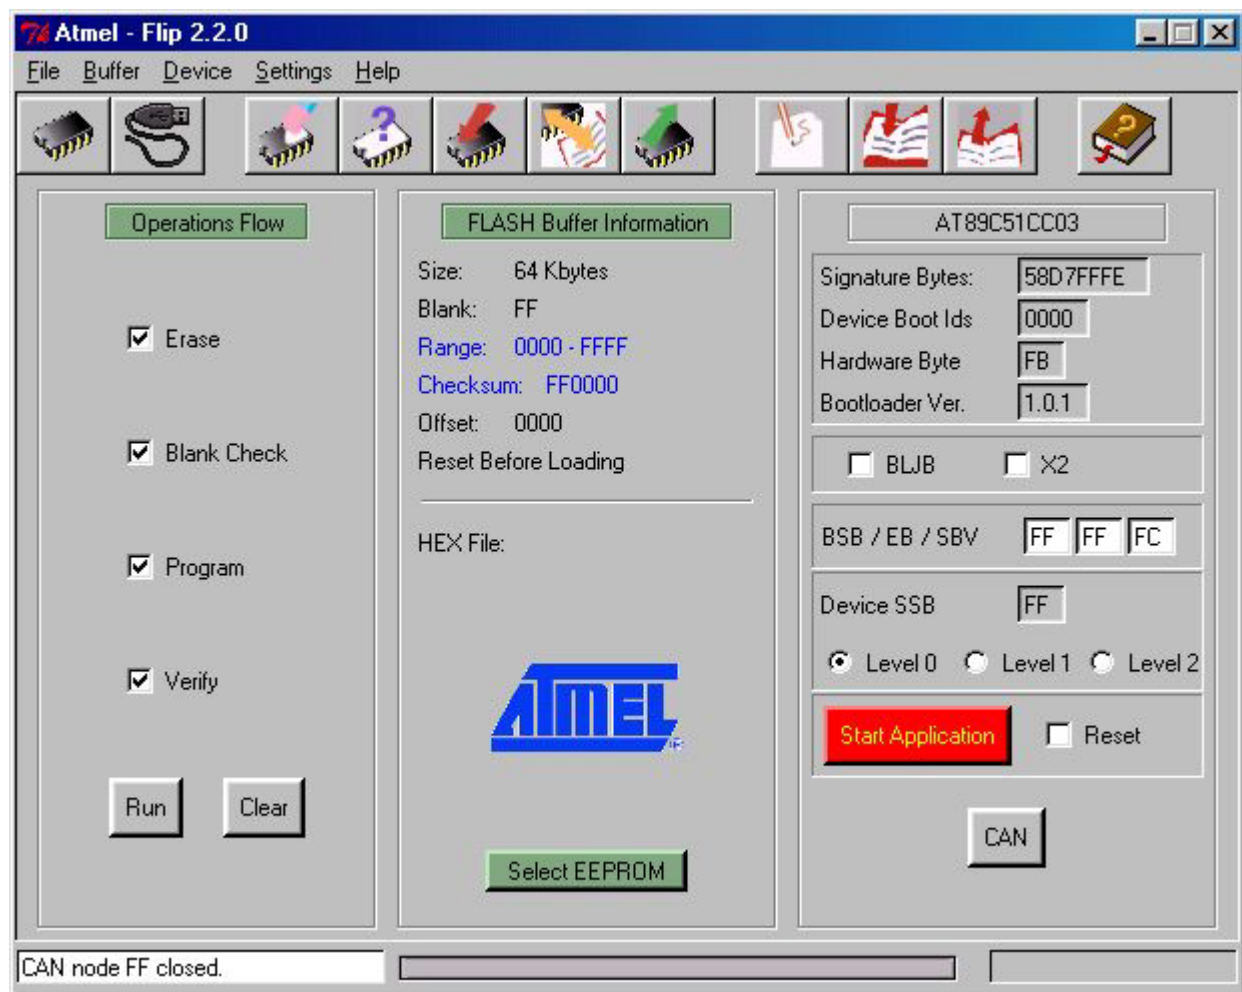

FIGURE 30: FLIP SETTINGS WINDOWS (3 OF 3)
- B9) Make sure that text boxes in the frame "AT89C51CC03" fill with text, like in figure 30.